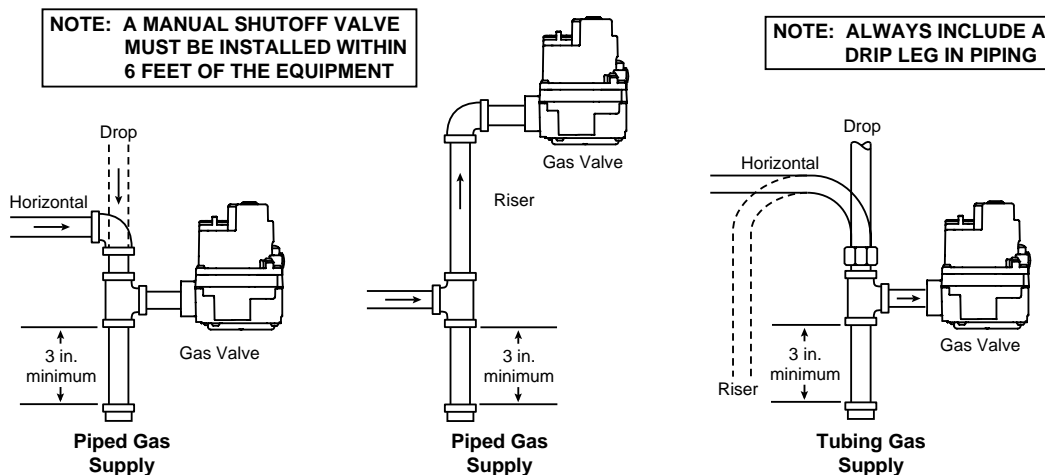

Figure 3. typical gas valve piping
5. Apply pipe joint compound (pipe dope) or teflon tape that is approved for all gases, only to the male threads of the pipe joints. **DO NOT** apply compound or teflon tape to the first two threads (see fig. 3 for typical piping connections).